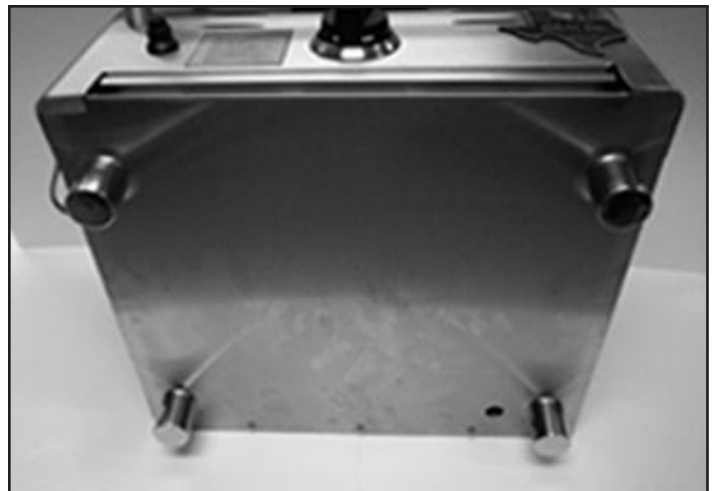

Figure 2.
3. Attach (4) bottom feet into (4) holes in bottom of grill. (Figure 2.)
4. Re-position grill with (4) feet on flat surface.